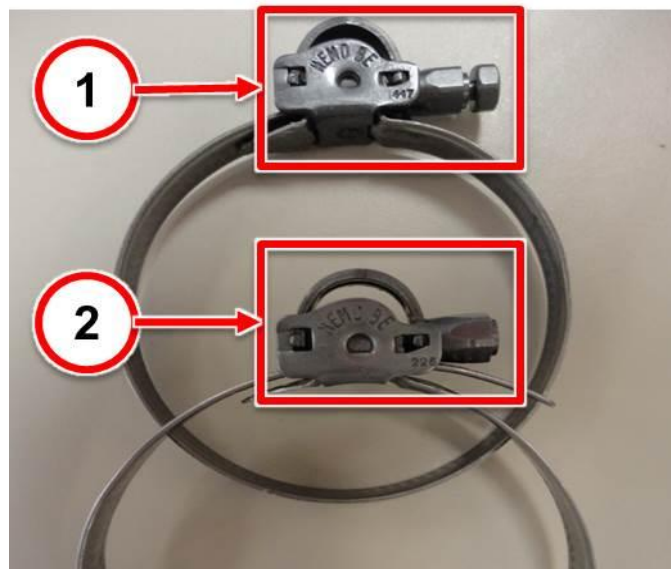

Fig. 22 Hose Clamp Torque Limiting Head
55. Using a 7 mm shallow socket and swivel, tighten the new clamp until the torque limiting head breaks free as shown in (Fig. 22).